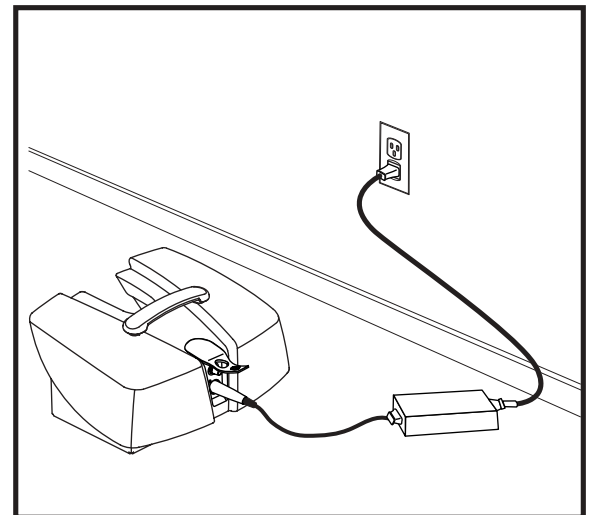

Figure 23. Battery Charging (Battery Box Removed)
2. Position the battery box next to a standard electrical outlet. See figure 23.